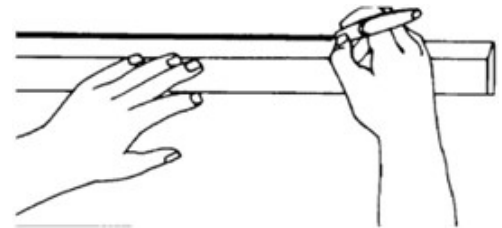

Figure 2. Making Registration Marks
- Layout and dry fit the EAGF panels. Make note of all doors, windows, access panels, and openings where film must be cut away, and of all joints and seams where film must be cut to ease stress on the film. Make appropriate alignment marks on the EAGF and on the aircraft. See Figure 2.